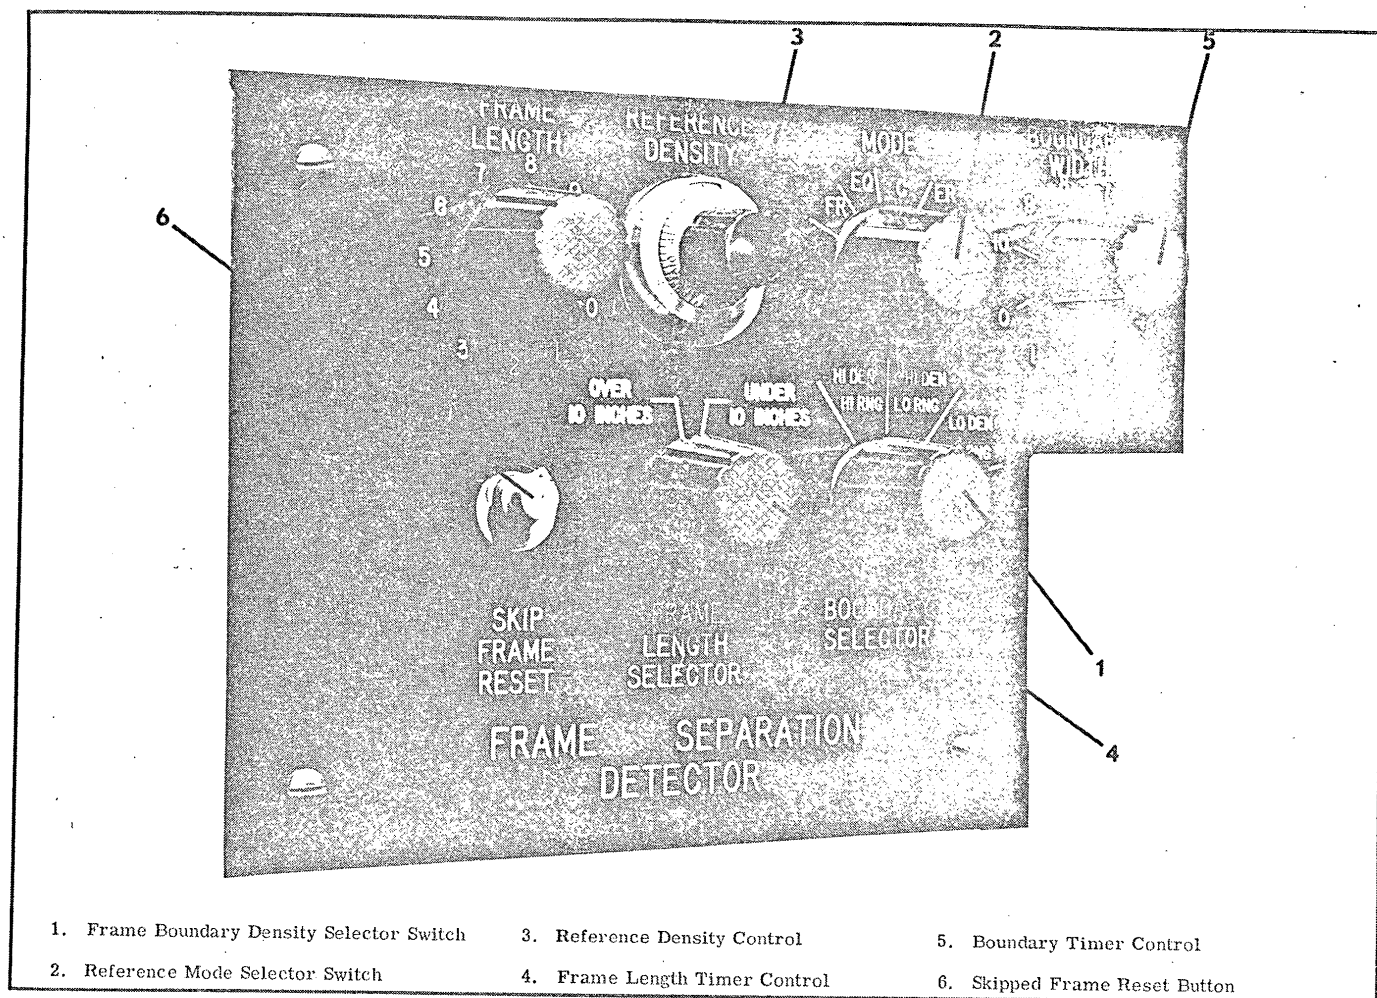
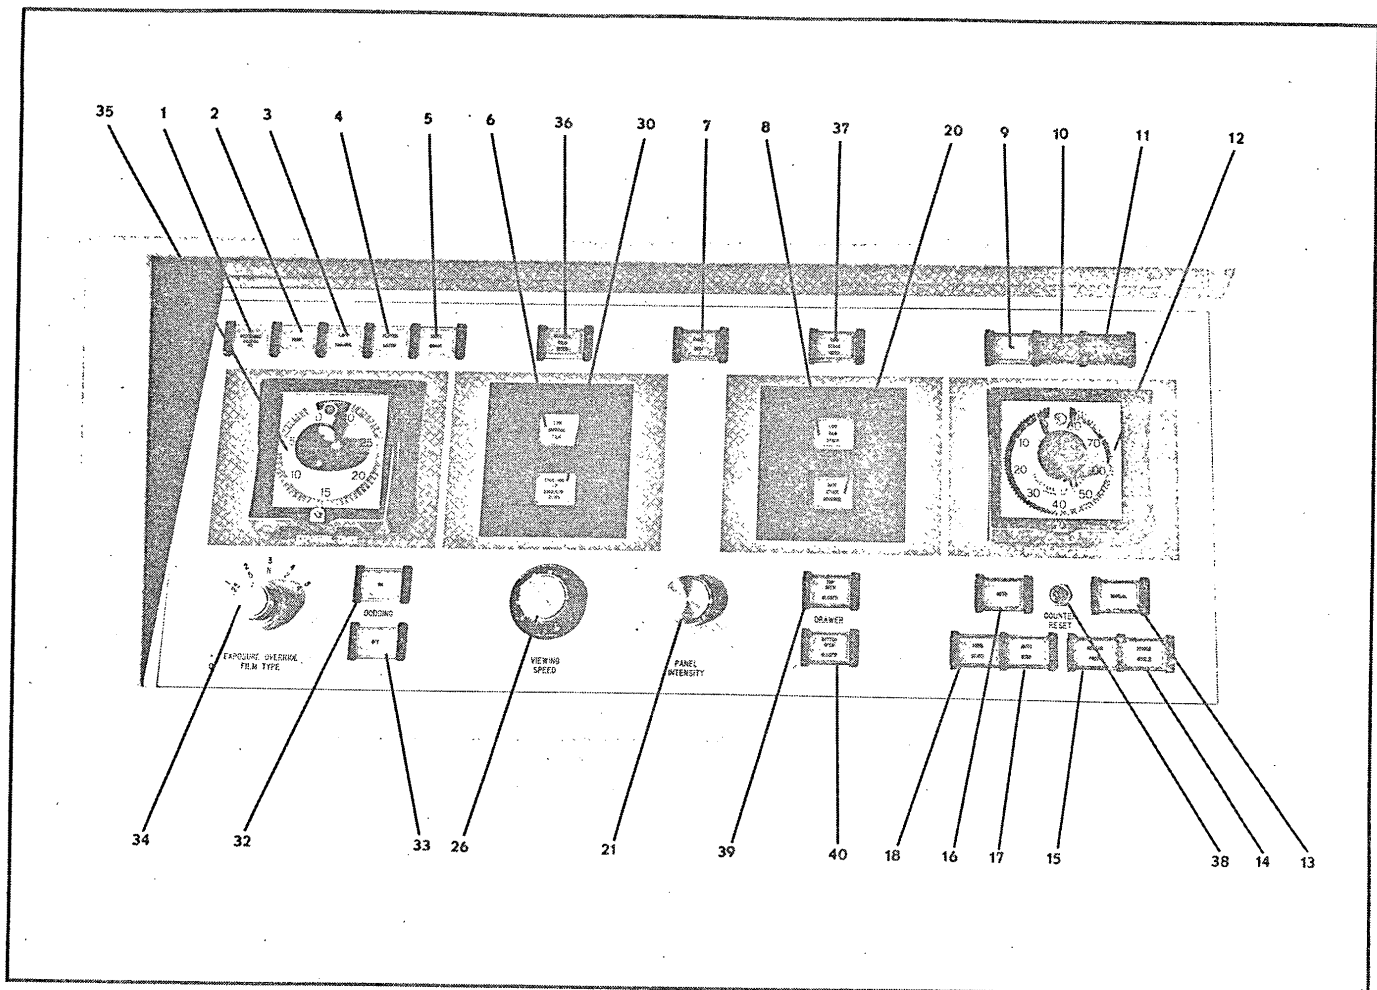

Figure 4-0. Frame Separation Detector Control Panel
Figure 4-1. Printer Control Panel
a. Turn on main power supply to the printer by depressing "ON" button (9, figure 4-1).
b. Push "PANEL TEST" button (7) and observe indicator stations (1, 2, 3, 4, 5, 6, 8, 9, 10, 11, 13, 16, 30, 32, 33, 36, 37, 39, and 40). All shall be completely illuminated with "PANEL TEST" button "IN". Adjust "PANEL INTENSITY" control (21) to desired amount of brightness. With "PANEL TEST" button (7) released, "ORIGINAL FILM RIDER" (6) and "RAW STOCK RIDER" (8) indicators will be "ON" to indicate rolls are locked up.
d. Turn all lamp switches (6) "OFF".
e. Turn off main power supply to the printer by depressing "OFF" button (11, figure 4-1).
g. Turn printer on by depressing "ON" button (9, figure 4-1). If machine is operable, fault alarm
g. Turn printer on by depressing "ON" button (9, figure 4-1). If machine is operable, fault alarm will not sound and "READY" (10, figure 4-1) indicator will illuminate. If fault alarm sounds, refer to trouble shooting in Section VI and correct fault before operating machine.
h. Set "PRINTS PER FRAME" (12, figure 4-1) on 1.
j. Set "EXPOSURE TIMER" (35) on 0.
4-2. The printer operating and programming controls are located on the control panel (Figure 4-1), the top of the lower drive assembly (Figure 4-2), and the top of the lower left hand drive module (Figure 4-0). Exposure lamp programming switches are found on the switch panel (Figure 4-3), and the "Raw Stock Advance Increment" control (14, Figure 4-7) is found on face of top left hand raw stock drive module. Purpose and use of controls follow.
4-3. The main power "ON" button (9, Figure 4-1) admits source power to the printer, starts circulating and cooling fans, energizes all drive motors, energizes power supplies, and circuitry; energizes master solenoid air valves. Face of button illuminates when printer has main power "ON".
4-4. The main power "OFF" button (11, Figure 4-1) breaks source power circuit to printer, thereby, shutting down all operation of printer. The button must be held in the IN position until printer completes print cycle and stops.
4-5. The "READY" Indicator (10, Figure 4-1) illuminates to indicate all faults have been corrected and the machine is ready for programming.
4-6. "LOW RAW STOCK" Indicator (8, Figure 4-1) illuminates when raw stock supply is depleted or take-up spool becomes full. (Fault alarm will not sound.)
4-7. "PANEL TEST" Push Button (7, Figure 4-1) is used as a press-to-test means of checking control panel indicator lamps for burn-out. Button may be depressed for test at any time with main power on.
4-8. "LOW ORIGINAL FILM" Indicator (6, Figure 4-1) illuminates when original film supply is depleted or take-up spool becomes full. (Fault alarm will not sound.)
4-9. "INDEX ERROR" Indicator (5, Figure 4-1) illuminates when an indexing error in original film advance occurs, automatically shuts down print cycle, and energizes fault alarm.
4-10. "PLATEN LATCH" Indicator (4, Figure 4-1) illuminates when a fault occurs in automatic platen latching in down position, automatically shuts down print cycle, and energizes fault alarm.
4-11. "LAMP FAILURE" Indicator (3, Figure 4-1) illuminates when there is a failure of any lamp within the programmed printing area, automatically shuts down print cycle, and energizes fault alarm.
4-12. "TEMP" Indicator (2, Figure 4-1) illuminates when temperature of discharge air from the printer exceed 32°C rise, automatically shuts down print cycle, and energizes fault alarm.
4-13. "PRESSURE SWITCH" Indicator (1, Figure 4-1). The pressure switch failure indicator is divided into two indicators. The upper half (No. 1) will illuminate when a failure occurs in pressure switch (PS-1) controlling air pressure to the air bag. The lower half (No. 2) will illuminate when a failure occurs in pressure switch (PS-2). When such a failure occurs, print cycle will automatically stop and fault alarm will be energized.
4-14. "EXPOSURE TIMER" (35, Figure 4-1) is a thirty second exposure timer graduated in one-half seconds used to time exposure of the print. The "DODGING OFF" button (33) must be depressed, and will illuminate, when exposure timer is in use.
4-15. "EXPOSURE FACTOR CONTROL" Dial (34, Figure 4-1). The exposure factor control dial is a dual control type of dial. The large dial (Film Type Dial) is used to program the printer to the printing speed of the raw stock being used. The small dial is the exposure "OVERRIDE CONTROL". Turning dial clockwise increases exposure time; counter-clockwise decreases exposure time. These controls are in the circuit only when "DODGING ON" button (32) has been depressed.
4-16. "DODGING ON" Button (32, Figure 4-1) is depressed for dodging control. The face of the button will illuminate when dodging control circuit is energized. This button is used in conjunction with the "EXPOSURE FACTOR CONTROL" (34).
4-17. "DODGING OFF" Button (33, Figure 4-1) is depressed to program the printer for use with the "EXPOSURE TIMER" (35). Depressing this button breaks "EXPOSURE FACTOR CONTROL" (34) circuit. The face of the button will illuminate to indicate dodging control is "OFF".
4-18. "VIEWING SPEED" Control (26, Figure 4-1) is used to increase or decrease the speed of original film transport across the printing area, for viewing only. This control is operable only when the lower drive assembly is in OUT position with frame advance toggle switch (11, Figure 4-2) in the OFF position.
4-19. "PANEL INTENSITY" Control (21, Figure 4-1) is used to increase or decrease the intensity of the control panel indicator lamps. It is supplied with a switch to turn panel lamps off when control knob is rotated counter-clockwise to stop position. Lamps glow at full intensity when control knob is rotated fully clockwise.
LEGEND FOR FIGURE 4-1
4-20. "RAW STOCK ADVANCE" Button (20, Figure 4-1), when depressed overrides "RAW STOCK ADVANCE INCREMENT" setting (14, Figure 4-7) and will continuously advance raw stock, at any desired time except during a print cycle, until button is released.
4-22. "AUTO" Button (16, Figure 4-1) is depressed to program printer for automatic mode of operation. Face of button will illuminate to indicate this mode is programmed.
4-23. "AUTO START" Button (18, Figure 4-1) is depressed to start print cycle in the automatic mode of operation.